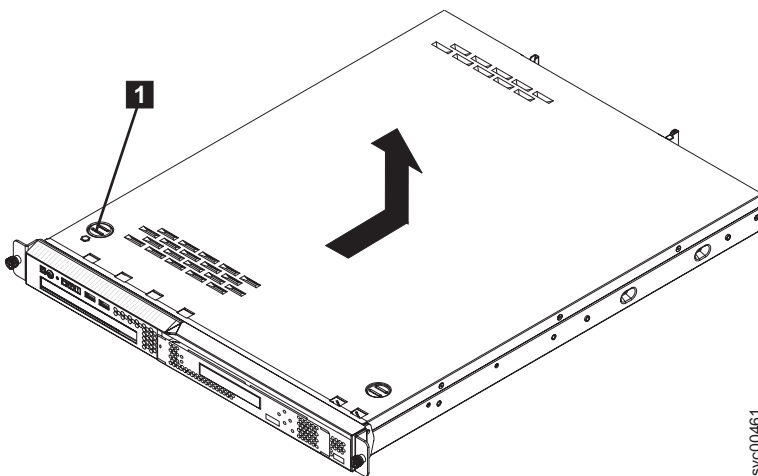

Figure 65. Removing the SAN Volume Controller 2145-8A4 cover
2. Press the cover-release button **1**, which is shown in Figure 65.